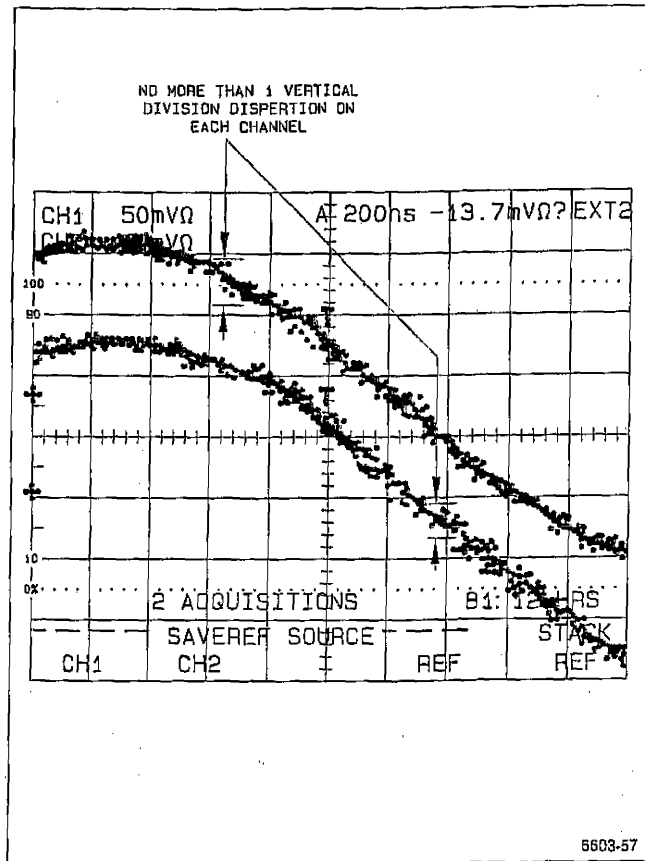

Figure 5-11. Checking sample dispersion.
3. **Check sample dispersion:** Now, push STORAGE ACQUIRE and vertically position the CH 1 and CH 2 display about 1 division apart. Adjust the frequency of the test generator for about a third of a cycle display in each channel. Push SAVE to capture a rising or falling portion of the waveform. (Watch the untriggered display until the desired portion is on screen and quickly push SAVE to capture; push ACQUIRE and repeat if unsuccessful.) Check to see that the dispersion of the samples on each section is no greater than one vertical division for each channel, and that there is no more than 1/2 division of difference between the two channels (see Figure 5-11).